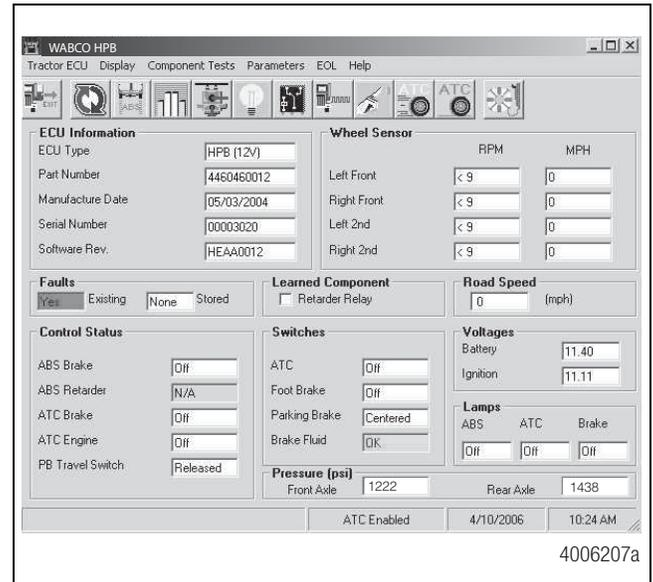

Figure 6
- With pressure on the system, reconnect the batteries. After reconnecting the batteries, turn the ignition on. Connect TOOLBOX™ Software to the vehicle. Use this software to verify pressure is building correctly. Figure 6.